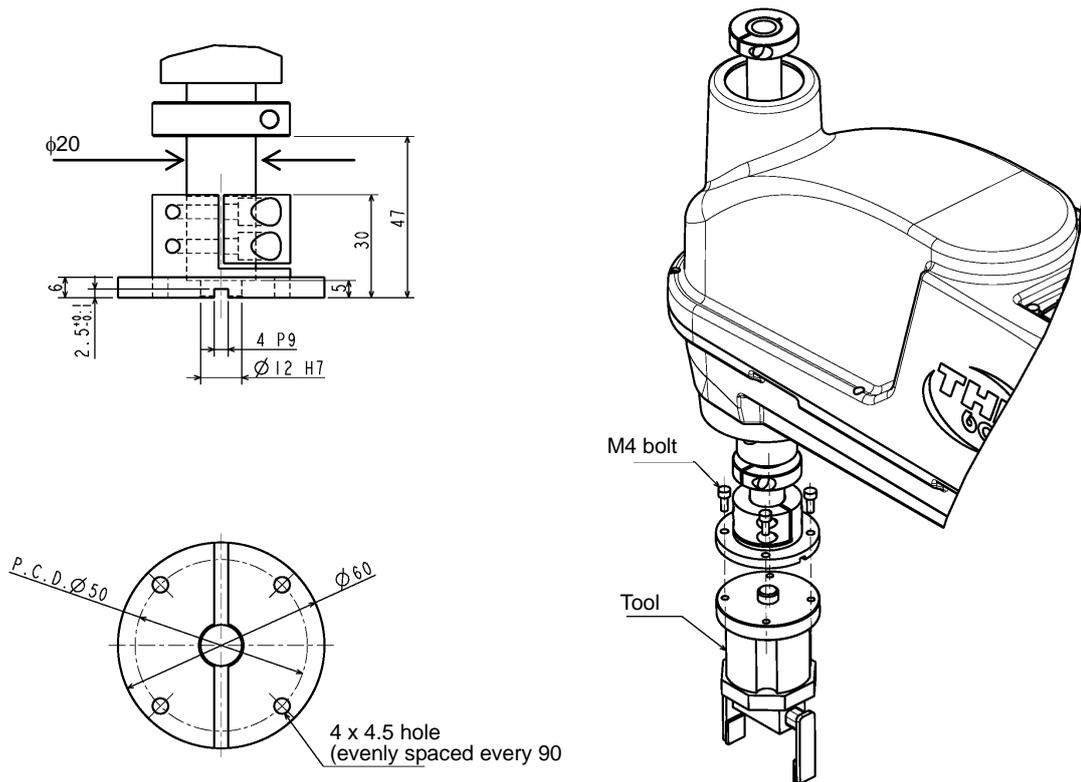

Fig. 17.1 Tool mounting dimensions (THL500, THL600 and THL700)
The tool is mounted on the end of the tool shaft. Dimensions of the tool shaft section are shown in Fig. 17.1. As shown in Fig. 17.1, the tool is centered with the $\phi 12H7$ mating section. The tool direction is adjusted by means of the 4 x 4 keys and secured with four (4) M4 bolts.